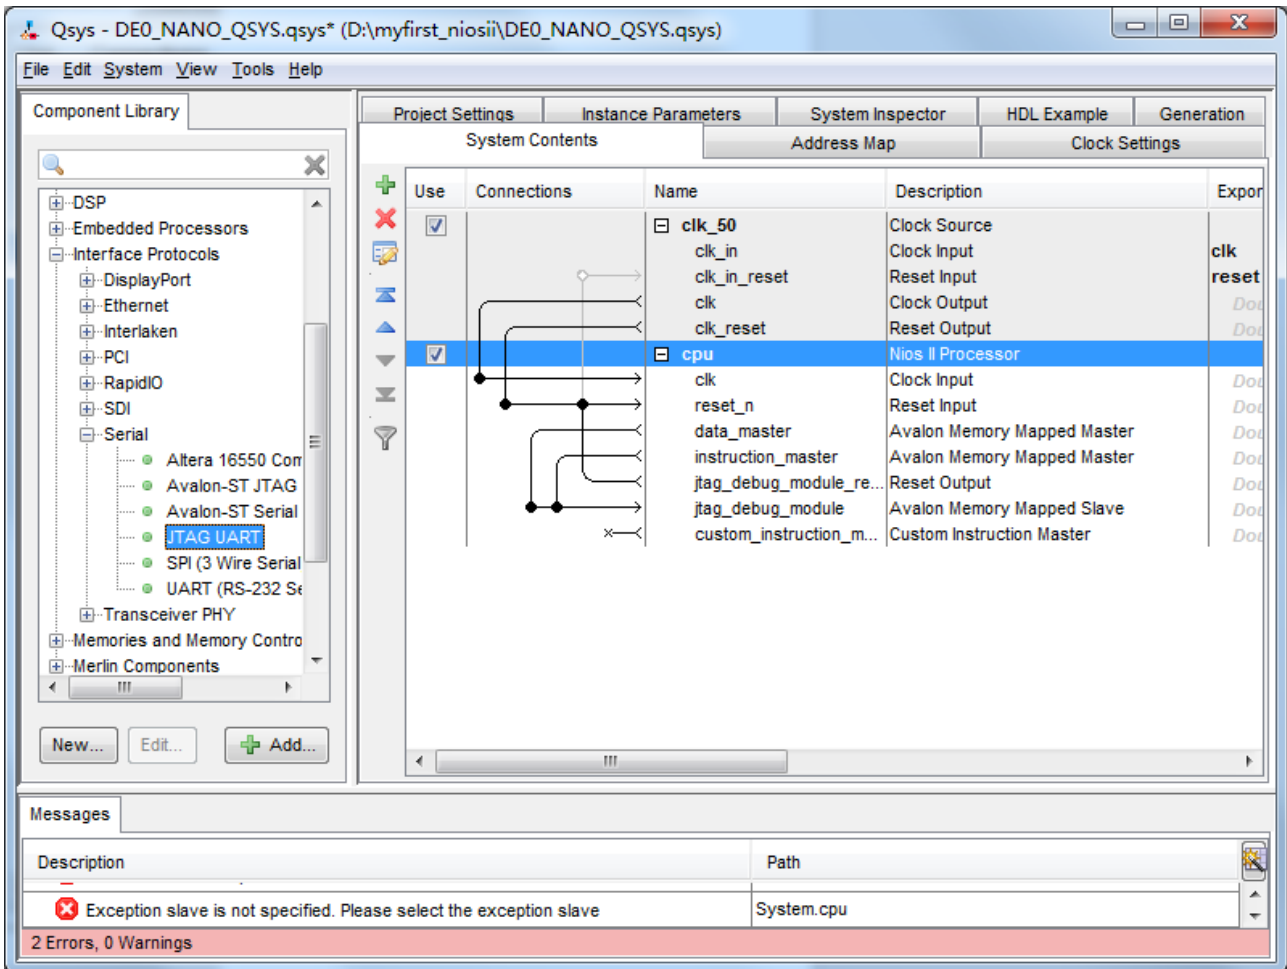
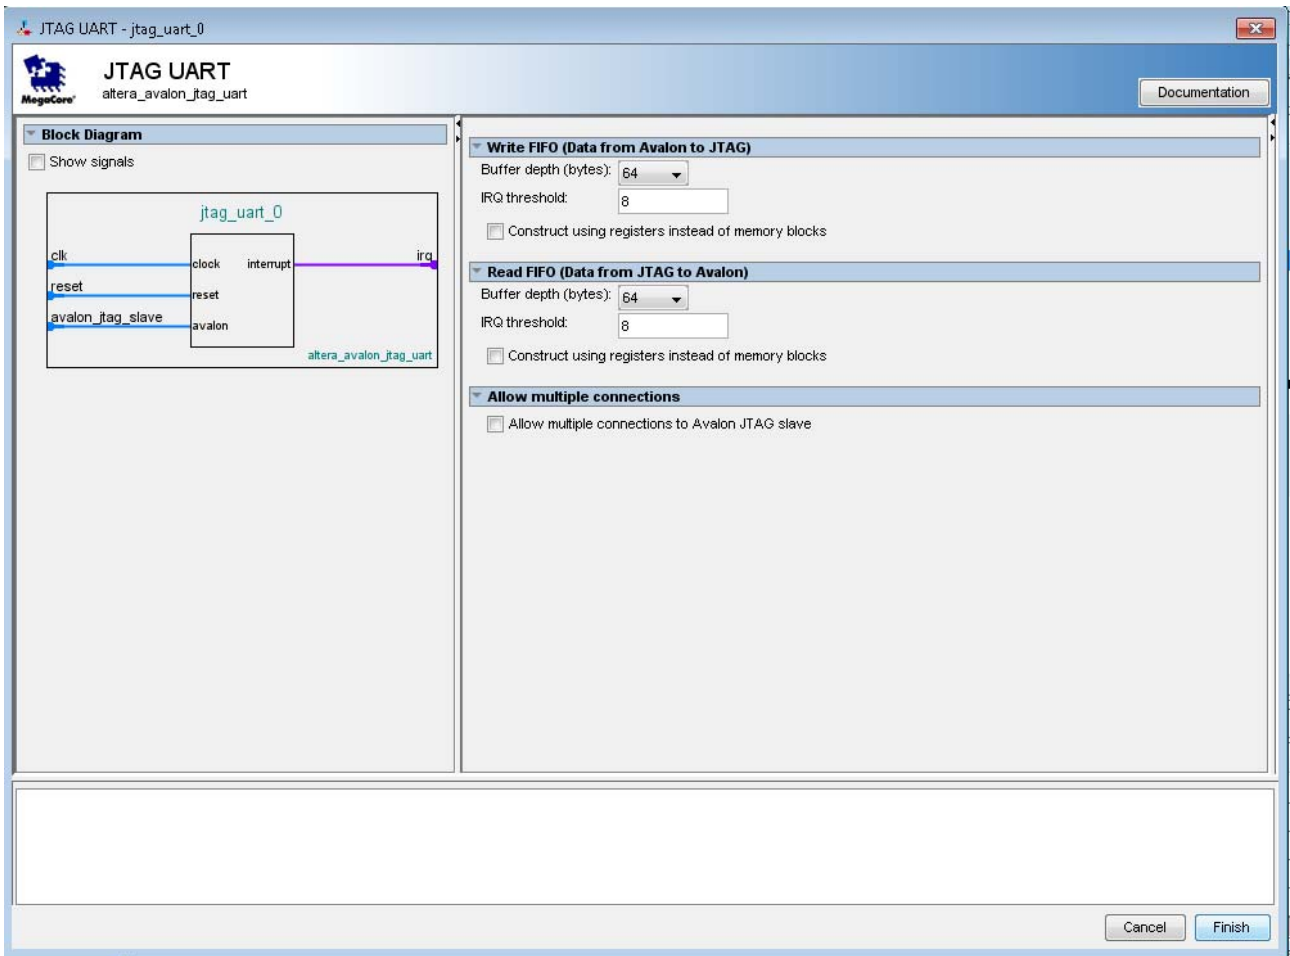

Figure 1-21 Add JTAG UART (1)
Figure 1-22 JTAG UART (2)
12. Choose Library > Interface Protocols > Serial > JTAG UART to open wizard of adding JTAG UART. See Figure 1-21 and Figure 1-22.